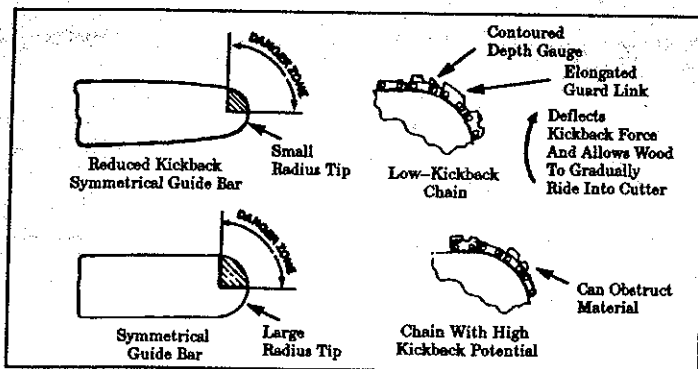

Figure 5
- **Reduced-Kickback Guide Bar**, designed with a small radius tip which reduces the size of the kickback danger zone on the bar tip. Figure 5. A Reduced-Kickback Guide Bar is one which has been demonstrated to significantly reduce the number and seriousness of kickbacks when tested in accordance with the safety requirements for gasoline powered chain saws as set by the American National Standards Institute, Inc., Standard B175.1 - 1991.
- **Low-Kickback Chain**, designed with a contoured depth gauge and elongated guard link which deflects kickback force and allows wood to gradually ride into the cutter. Figure 5. Low-Kickback Chain is chain which has met kickback performance requirements of ANSI B175.1 (Safety Requirements for Gasoline-Powered Chain Saws) when tested on a representative sample of chain saws below 3.8 cubic inch displacement specified in ANSI B175.1.